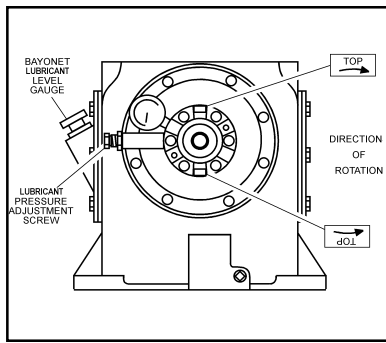

Fig. 5-1 Pix 1068
Step 2) Rotate the lubricant pump housing 1/2 turn (180°). (Note: The rotational arrow at the top of the pump housing should now reference the direction you wish the compressor to rotate. (See **Fig. 5-1, Compressor Directional Arrows**)
Step 9) Start the compressor and adjust the lubricant pressure to 25 PSIG. Adjust the lubricant pressure by first loosening the locknut on the lubricant pressure adjustment screw (See **Fig. 5-1 Compressor Directional Arrows**). Turn the lubricant pressure adjustment screw clockwise to increase lubricant pressure; counterclockwise to decrease lubricant pressure. After adjustment is made, re-tighten the locknut.